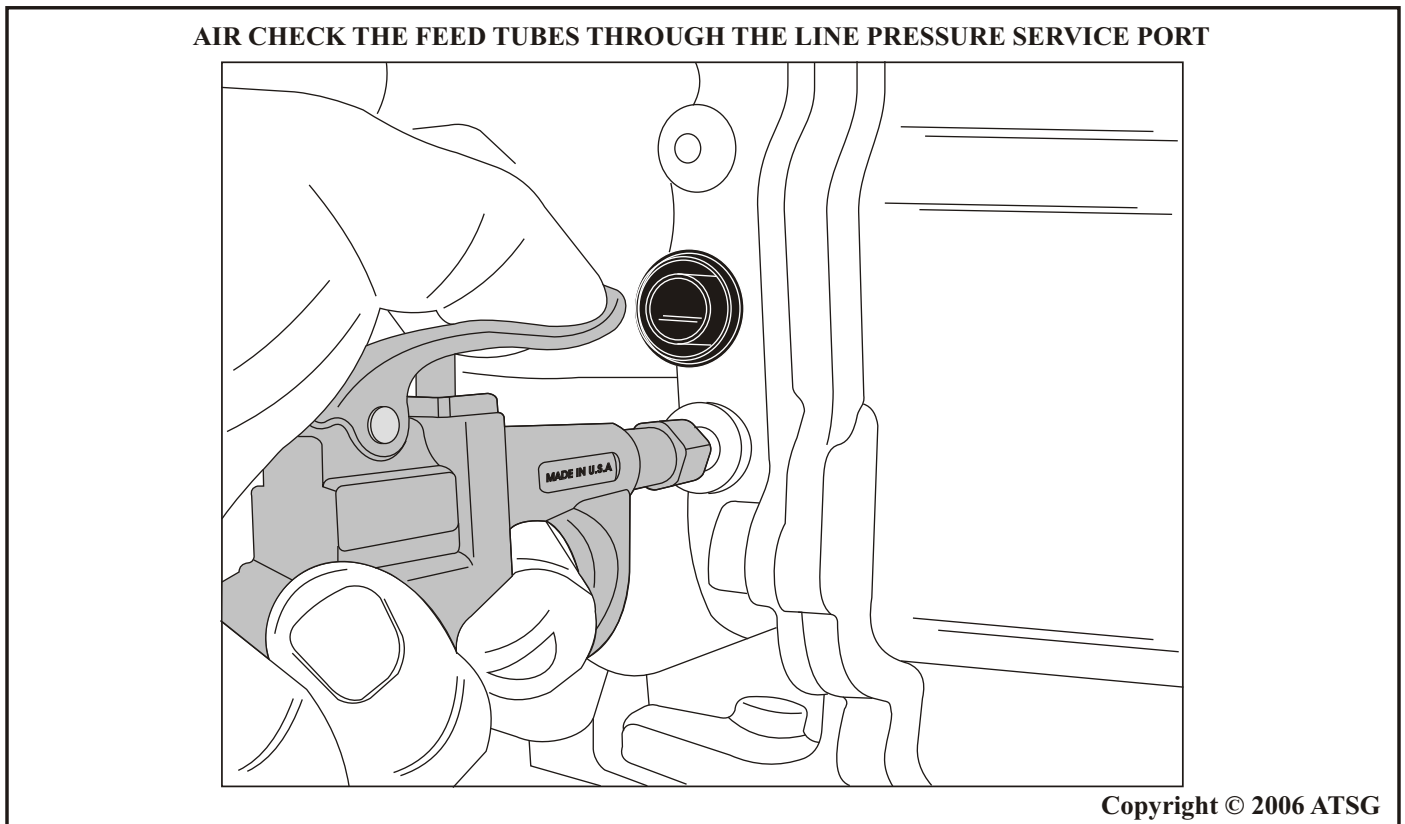

Figure 3
**CORRECTION:** A simple air test can be performed to check the oil feed tubes for cracks. Remove the bottom pan and filter. With the gear shift lever in drive and/or reverse, blow air into the line pressure service port and watch for oil to leak at the feed tube welds where the tubes meet the flange, (Refer to Figure 3).